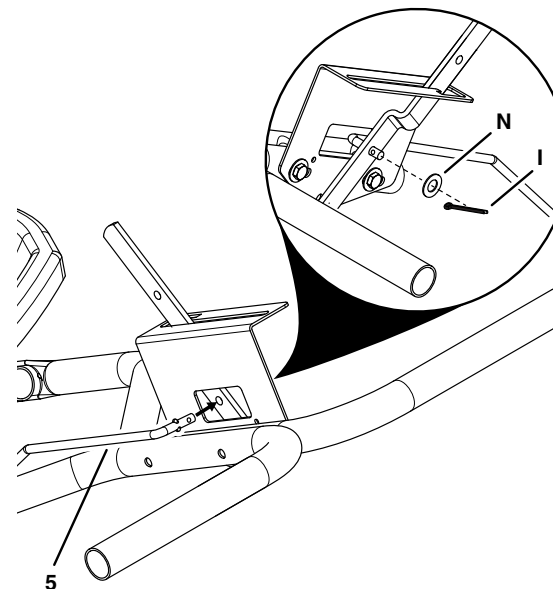

Figure 14
STEP 14: (SEE FIGURE 14)
- Insert the upper end of the flow control rod (5) through the hole in the flow control arm. Secure it with a 1/4" washer (N) and a 3/32" x 3/4" cotter pin (I), spreading the ends of the cotter pin.